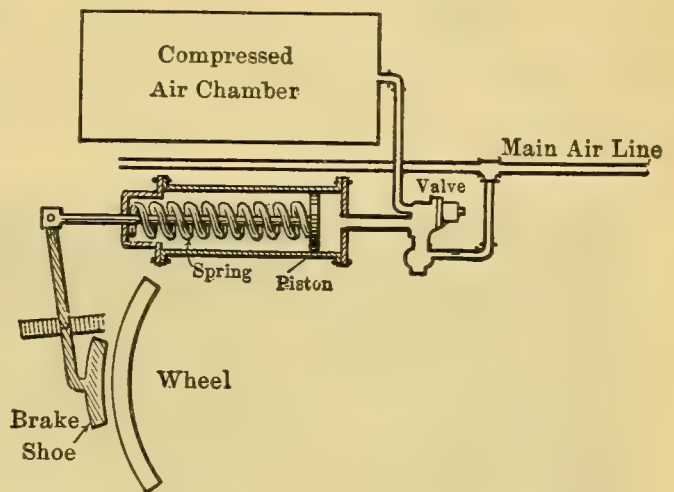

FIGURE 123.—SECTION OF AIR BRAKE.
80. Air Brakes give the widest use to compressed air. In the diagram of the air brake (Figure 123), the compressed air chamber, which is under the car,